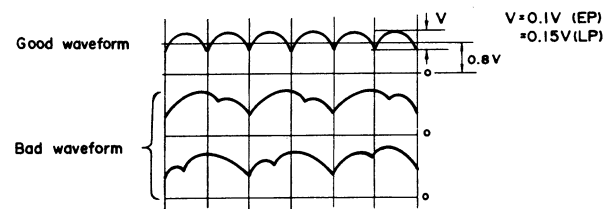

Figure 7-1
(Refer to Figures 7-1 and 8-3)
2. Adjust the semi-variable resistor (VR1) so that good waveform indicated in Figure 7-1.